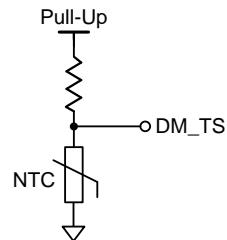

Figure 10. TS Function Connection
The device integrates temperature sense (TS) function to diagnose the external temperature with NTC thermistor. The voltage on NTC thermistor varies with different temperature. Figure 10 shows the DM\_TS pin connection for the TS function. The device diagnoses TS OTP from the DM\_TS pin ADC value if DM\_TS\_CFG(0x005F[6]) is set to 1. If the external sensing voltage is lower than TS OTP threshold, the device will stop charging and reset CHG\_EN bit to disable. The temperature information is derived from the DM\_TS pin ADC value. For using this function, enabling DM ADC conversion is necessary.